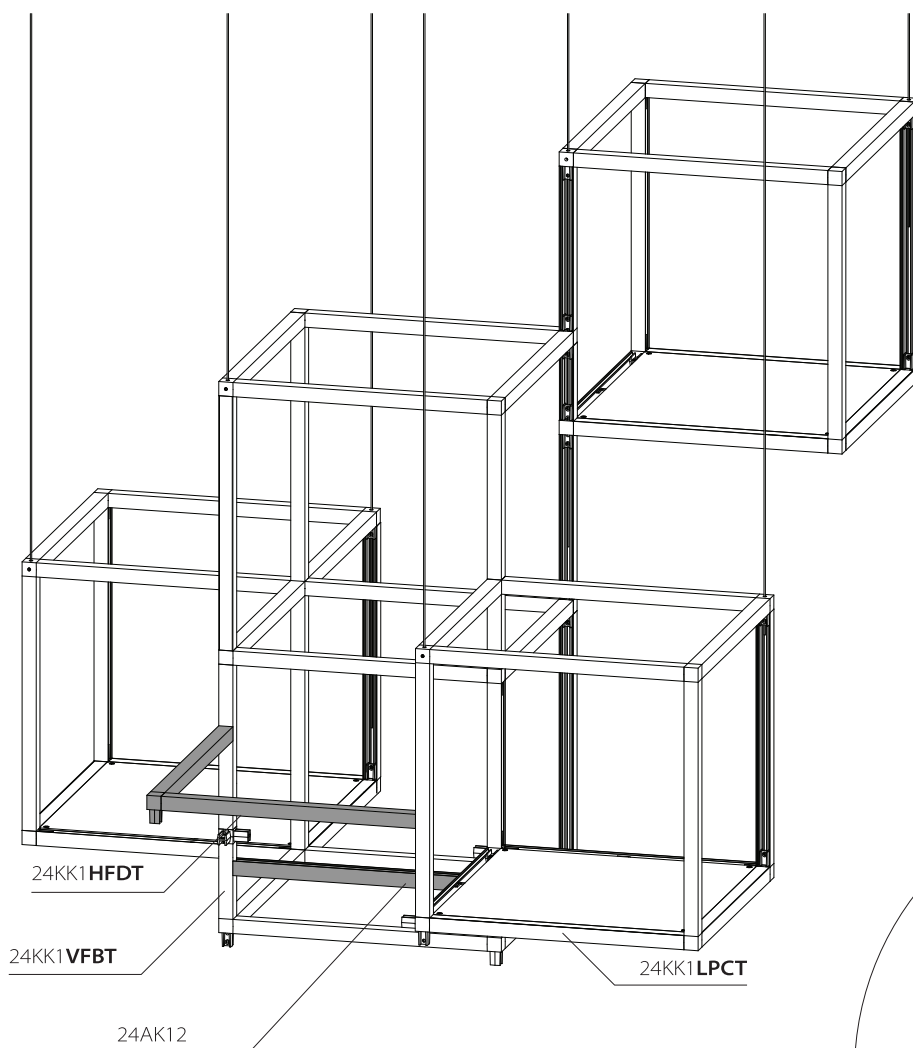

Fig. 10a
- 8a. Install (1x) 24AK12 in the orientation shown in Fig. 10a to bridge 24KK1VFBT to 24KK1LPCT.
- 8b. Install 24KK1HFDT to 24KK1VFBT and 24KK1LPCT in the orientation shown in Fig. 10a.